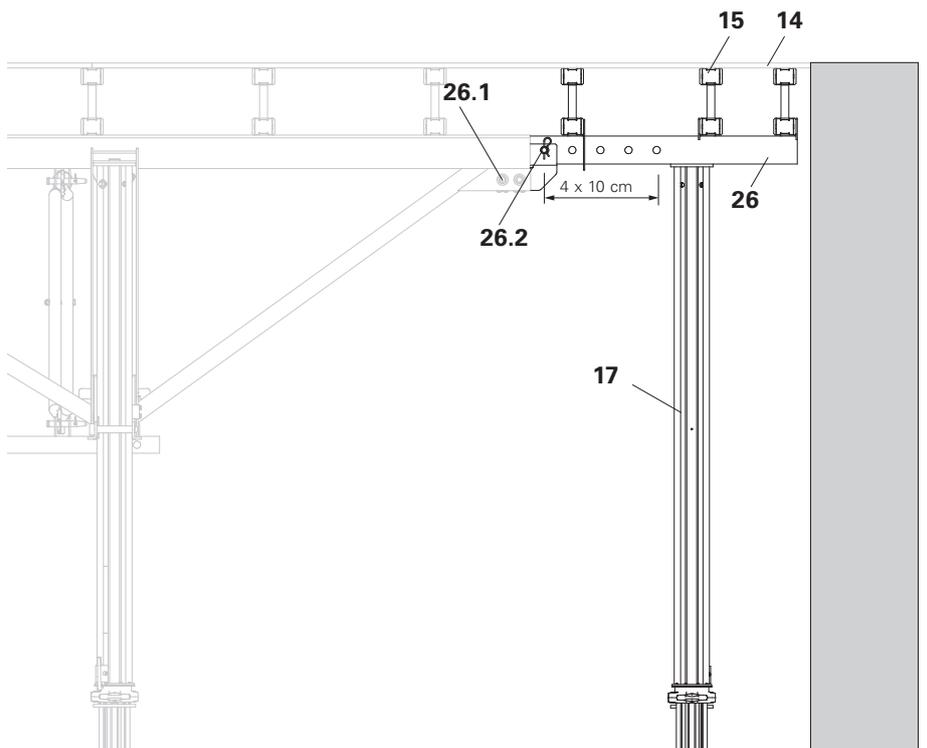

Fig. A4.05
1. Slide Telescopic Extension ST (26) onto the truss girder end and secure by means of two pins and cotter pins (26.1) respectively.
4. Position plywood formlining (14) and secure.
5. Support Telescopic Extension ST with an MP prop (17). (Fig. A4.05)